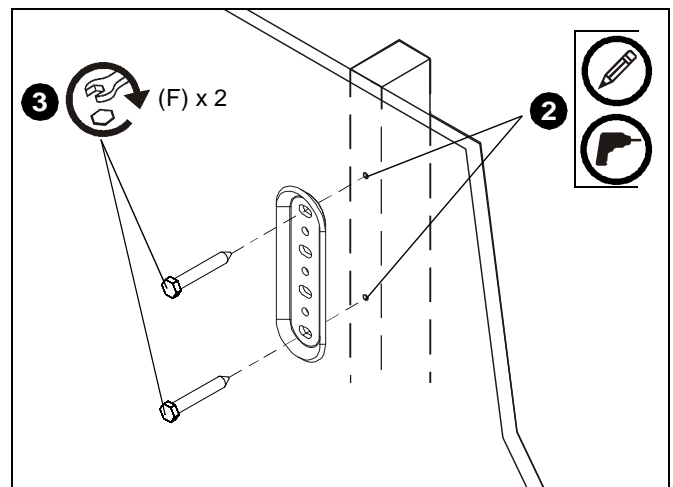

Figure 1
2. Using wall plate (D) as a template, mark then drill two 1/4" diameter x 3" deep pilot holes through top and bottom holes of wall bracket into wall structure. (See Figure 1)
3. Install two 3/8" x 3" hex head lag screws (F) through wall plate (D) and drywall into wood stud. (See Figure 1)
4. Ensure wall plate (D) is vertical, then tighten screws (D).